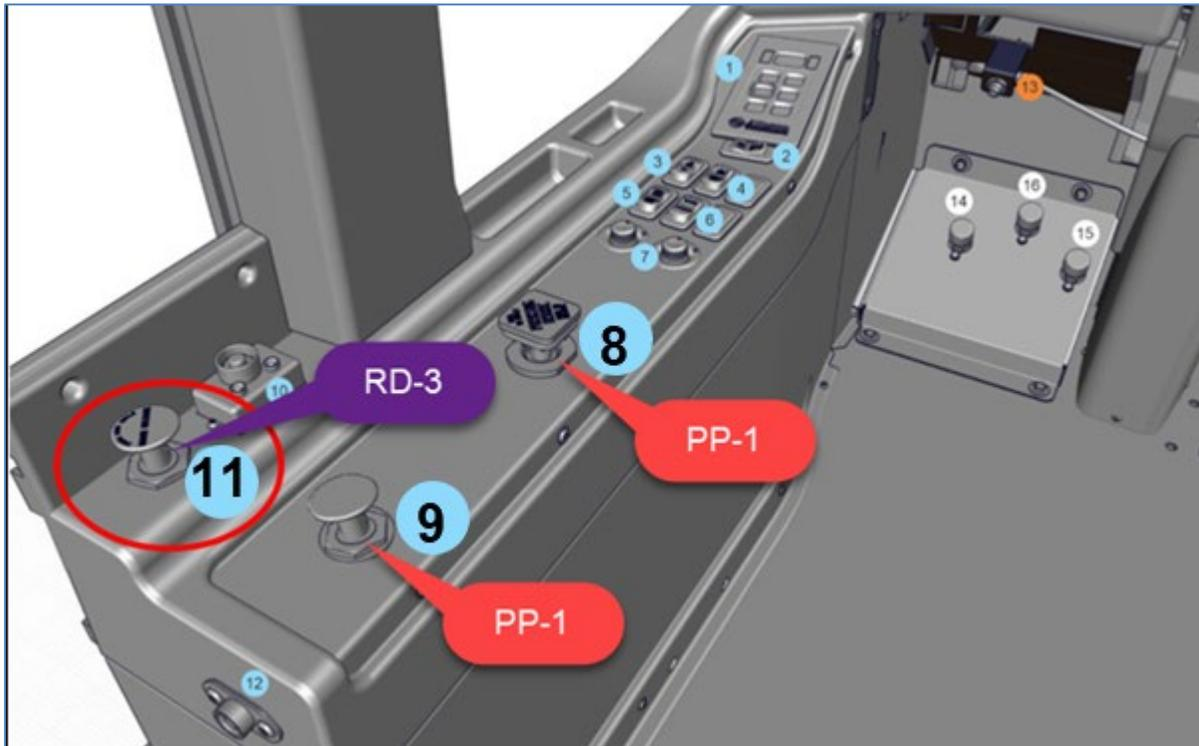

Figure 4: THREE VALVES TO BE TESTED
2. Test the three valves on the left console (Figure 4).